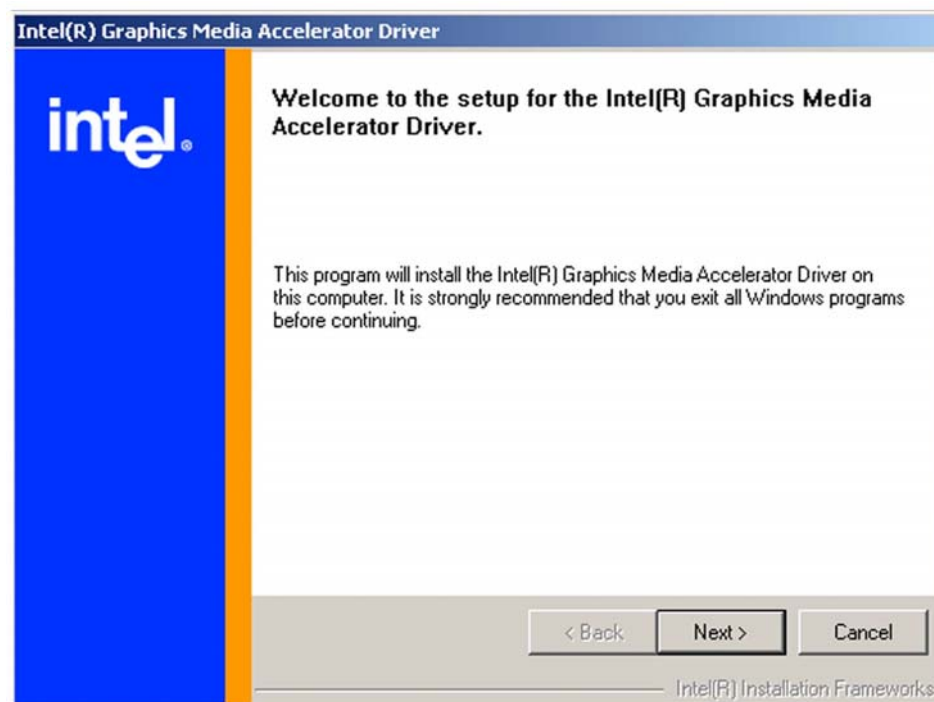

Figure 7-12: GMA Driver Installation Welcome Screen
Step 8: The welcome screen shown in **Figure 7-12** appears.